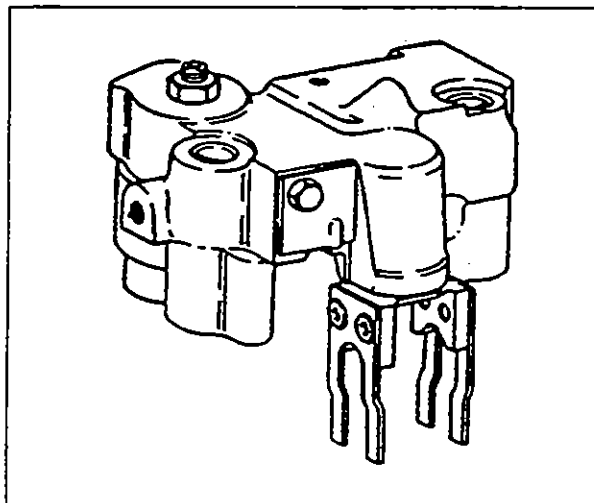

Fig. 1.6.2
- 53A (Fig. 1.6.2): Used on the following Detroit Diesel Engine Models: 3-53, 4-53, 6V-53, 8V-53